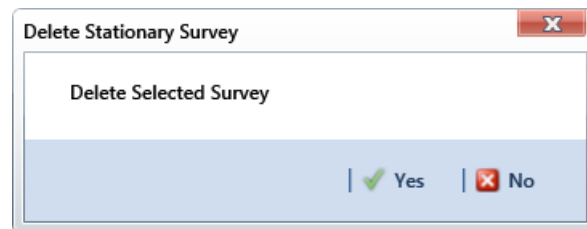

Figure 14-4. Delete Stationary Survey
- 5 When the *Delete Stationary Survey* message displays, click  **Yes** to delete the stationary survey or  **No** to cancel the operation (Figure 14-4).